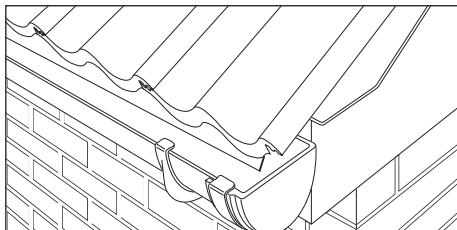

Fig. 11 – Overhanging tiles ensuring water discharges into gutter
- 3 If gutter is not fixed, an overhang of min. 50mm should be allowed (Fig. 11).